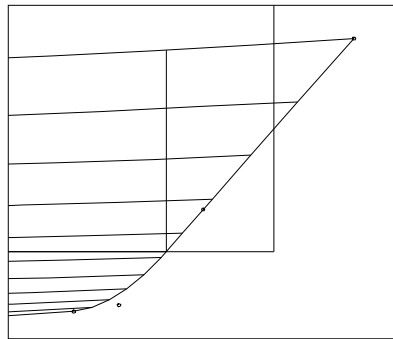

Fig. 13
**28**  and **drag a window to zoom in on the forward end of the water line** (Fig. 13), where Sta. 0 now intersects it exactly (well, almost exactly — we did round off the values to .001; if you zoom in far enough, you'll be able to see the slight discrepancy, but .001 would be plenty accurate for designing and building this hull).